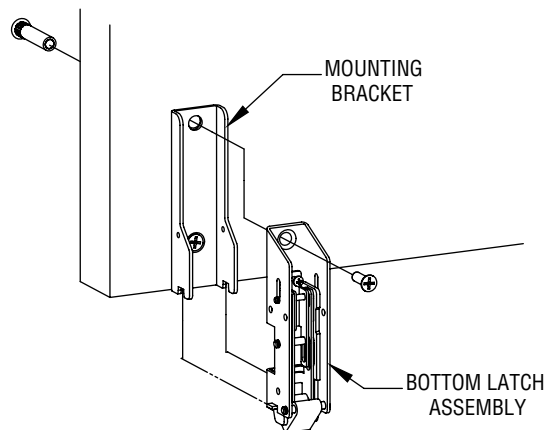

FIGURE 1
- A. Install bottom latch assembly to bottom latch bracket using provided screw and bottom two slots in bracket (see Figure 1).
- A. Thread top rod half-way onto top latch threaded connector (see Figure 1).
- B. Use the provided machine screw to attach rod connector onto actuating block, but do not attach top rod and rod connector yet. Align the edge of rod connector next to top rod and mark a cutting line on top rod, if necessary (see step 12.5 Cut Rod to Length). Be sure the top latch is not actuated and exit device push bar is not depressed (see Figure 1).